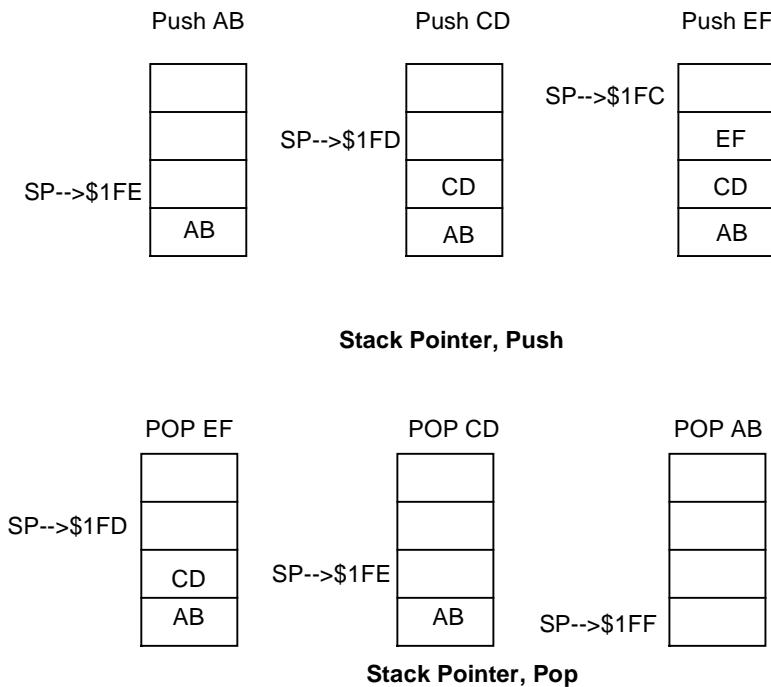

Figure 4-4 SPMC65X Stack Operations
The save / restore locations in the stack are determined by the stack pointed (SP). The SP is automatically decreased after the saving, and increased before the restoring. It means the value of the SP indicates the stack location number for the next save. Figure 4-4 shows detailed stack operations.